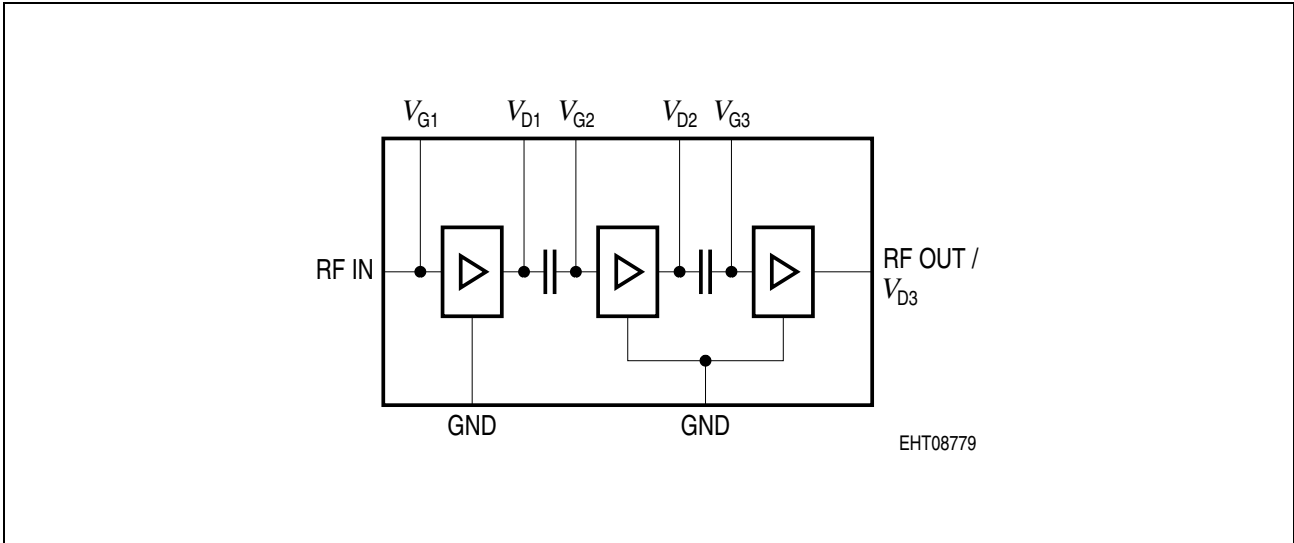

Figure 1 Functional Block Diagram
1) The gate voltage of the 1st RF Amp is not blocked internally (see also **Figure 1**). Therefore V_{G1} must be blocked externally at RF IN.